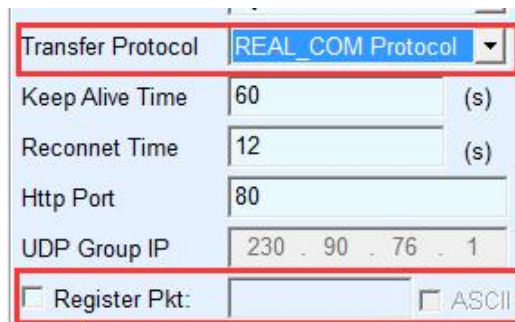

Figure 36 Enabling Realcom Protocol
As shown in figure 36, in normal mode, when two hosts, host A and host B, are connected to the serial port server at the same time, host A sends (1) instruction, RS485 device receives (2) instruction, and RS485 device returns (3) instruction, but the serial port server sends (4) to host A and (5) to host B at the same time. Since host B did not send a query, but it also received a reply instruction (5), host B may generate a communication exception error.